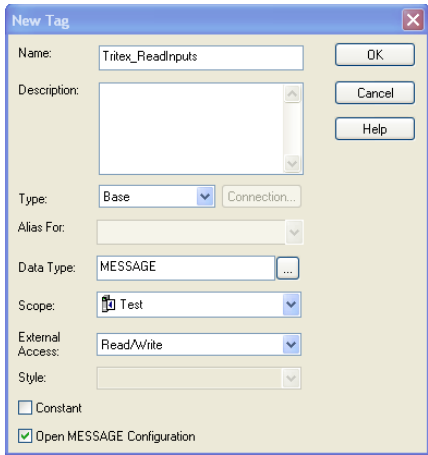

Figure 24 – Get Message New Tag
3. In new Tag menu, assign name to tag, Check **Open MESSAGE Configuration** box, then click **OK**. See Figure 24.